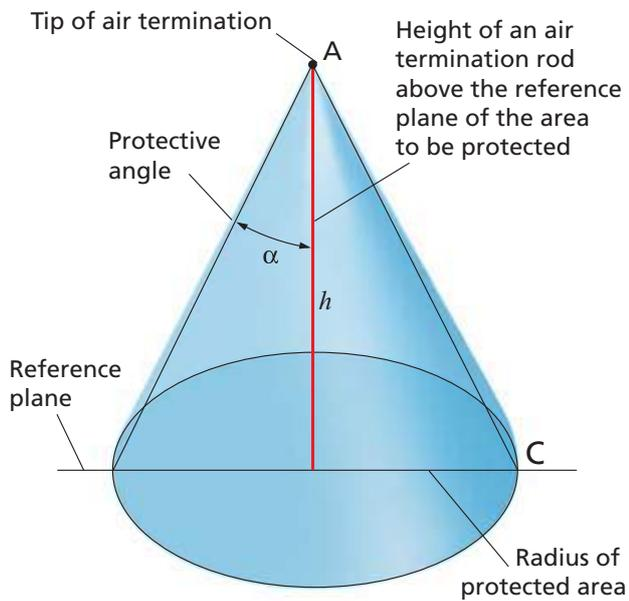

Figure 8: The protective angle method for a single air rod
The protective angle ( $\alpha$ ) is the angle created between the tip (A) of the vertical rod and a line projected down to the surface on which the rod sits (see Figure 8).